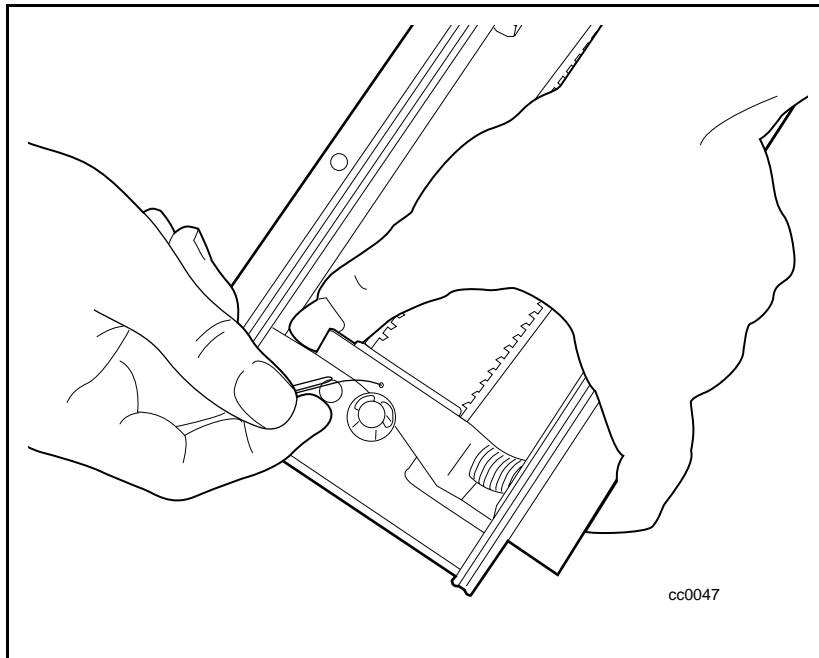

Figure C-28. Removing tension from the belt
2. Insert a paper clip in the hole so that it removes tension from the belt and then leave it in place while completing the procedure (see Figure C-28).